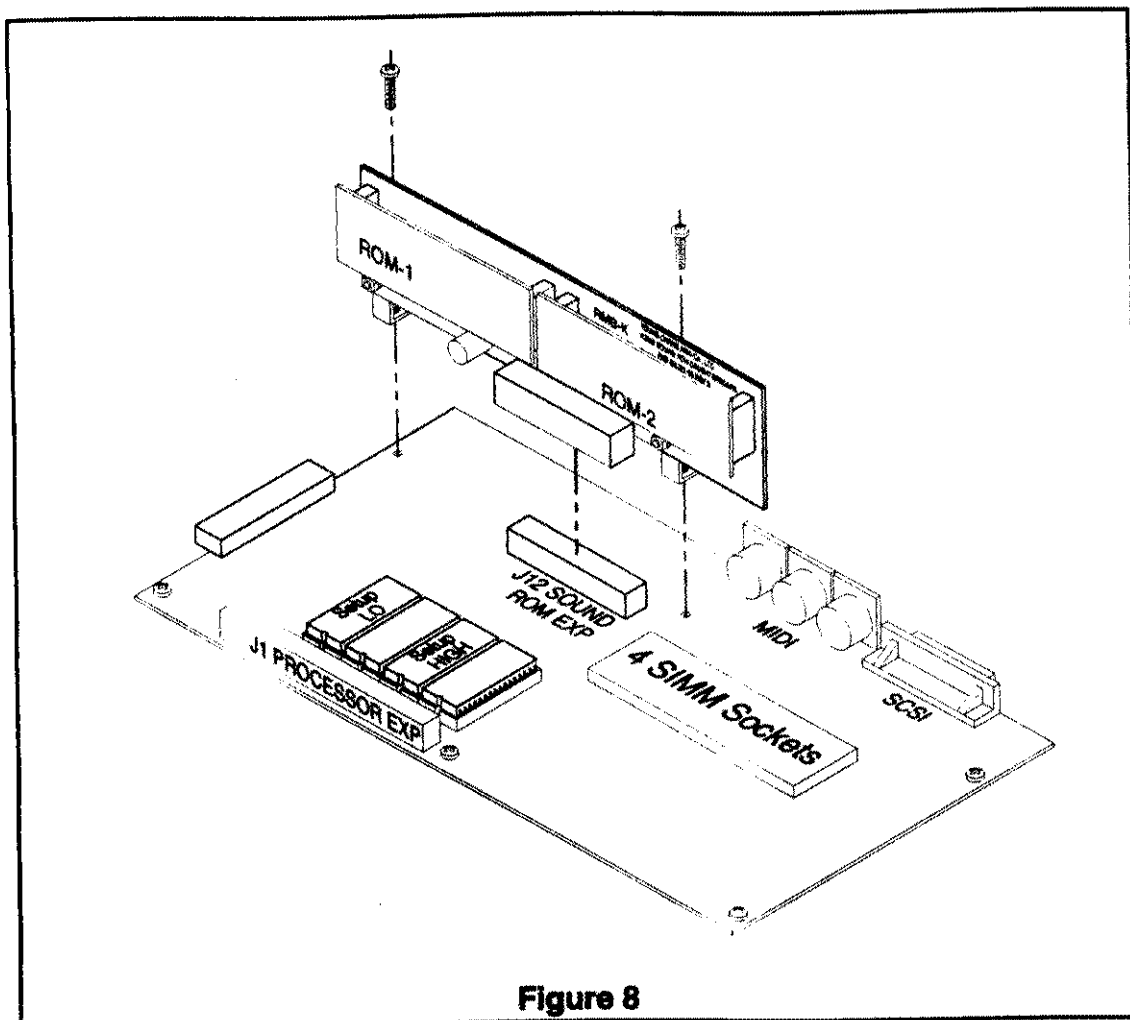

Figure 8
9. See Figure 8. Push the RMB-K Daughter Board, with the both ROM boards installed, back onto J12, the "SOUND ROM EXP" connector. The side of the RMB-K Daughter Board with the ROM board on it should be facing connector J1, the 64 pin connector labeled "PROCESSOR EXP.". **NOTE:** The connector on the RMB-K Daughter Board is keyed and cannot be installed backwards.